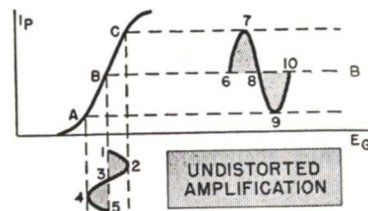

FIG. 2. The actual tube characteristic is never straight, but there is a center portion which will give relatively undistorted amplification.
istic of a vacuum tube is never a straight line but is curved, as shown in Fig. 2. Part of the curve is sufficiently straight so that operation on it will not produce appreciable distortion. In Fig. 2 the applied grid signal 1-2-3-4-5 swings the plate current over the almost straight portion A-B-C of the
**Overloading Effects.** Now suppose we have the same grid bias and plate voltage as for Fig. 2, but apply a larger signal to the grid so that we work into the upper and lower bends of the characteristic (Fig. 3). Here, the signal 1-2-3-4-5 swings the tube operation over range D-B-E, producing the out-
**Bias Changes.** Suppose that instead of overloading the stage with too much signal, we apply a normal signal and allow the bias voltage to shift. In Fig. 4A, the tube operating curve is the same as in Fig. 2, but the operating point is now point F. The bias voltage has been reduced, allowing a higher average plate current to flow.
In Fig. 2, the average of the plate current is the line  $B-B$ . When the signal is applied, the increase in plate current from 6 to 7 of Fig. 2 is equalled by the decrease from 8 to 9, so there is no change in the average value of the plate current. Thus, you should notice no change in the plate current when a signal voltage is applied to a class A stage.